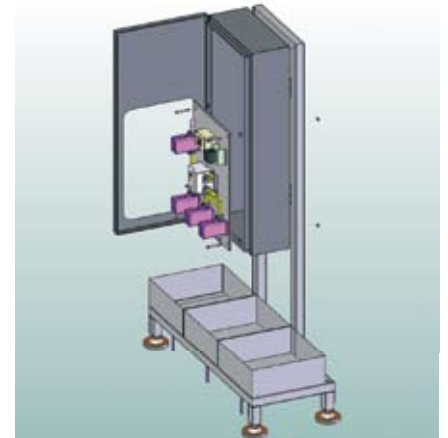

Fig. 3
**Chemicals unit:** the detergent and disinfectant concentrates are dosed by an independent unit ensuring the accurate titration of the solutions circulating in the filler (fig 3).